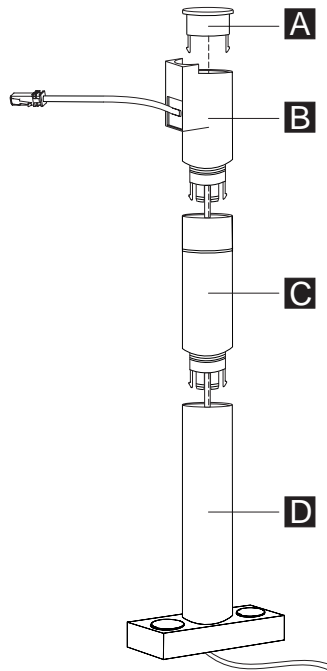

Figure 53. Assemble the post
1. Route the display cable up through the head assembly ( **B** in Figure 53) and out the opening on the side. Then route the cable down through the post ( **D** ) and optional extension ( **C** ).
7. Snap the round top cover ( **A** in Figure 53 on page 62) onto the post.